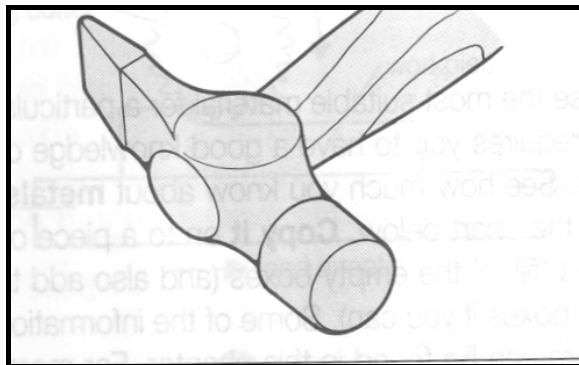

FIGURE 4.2
- 4.3 FIGURE 4.2 shows a hammer head. Answer the questions that follow.